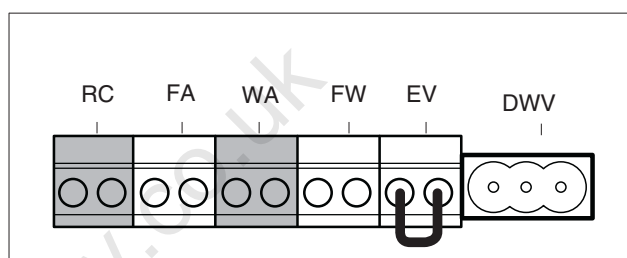

fig. 48 Terminal strip – RC room controller and potential-free heat demand
- It is not possible to connect a thermostat simultaneously to the RC connection and to the terminal for the potential-free heat demand (WA) (fig. 48).